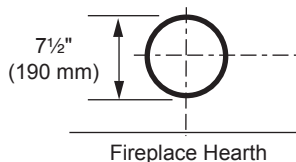

Figure 15 - Locate Vent Opening on Wall
- The maximum horizontal distance between the rear of the appliance and the outside face of the outside termination is 20" (508 mm). *Figure 15*
1. Locate and cut the vent opening in the wall. For combustible walls first frame in opening. *Figure 15*
Combustible Walls: Cut a 11½"H x 9½" W (292 x 241 mm) hole through the exterior wall and frame as shown. *Figure 15*
3. Attach vent pipe assembly to the fireplace. Set fireplace in front of its permanent location to insure minimum clearances. Mark the wall for a 11½"H x 9½"W (292 x 241 mm) rectangle hole (for noncombustible material such as masonry block or concrete, a 7½" [190 mm] diameter hole is acceptable). *Figure 15*. The center of the hole should line up with the center line of the horizontal rigid vent pipe end. Be sure to allow for minimum rise. Cut a 11½" x 9½" (292 X 241 mm) rectangle hole through combustible exterior wall (7½" [190 mm] diameter hole if noncombustible). Frame as necessary. Allow ¼" minimum rise per foot. *Figure 15*
1. Establish vent hole through the wall. *Page 17, Figure 15*